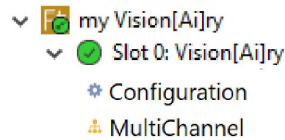

Figure 22 - Opening the Vision[Ai]ry Configuration Page in DashBoard
1. In the DashBoard tree, expand the Vision[Ai]ry node and the **Slot 0** node fully, and then double-click **Configuration** (Figure 22).